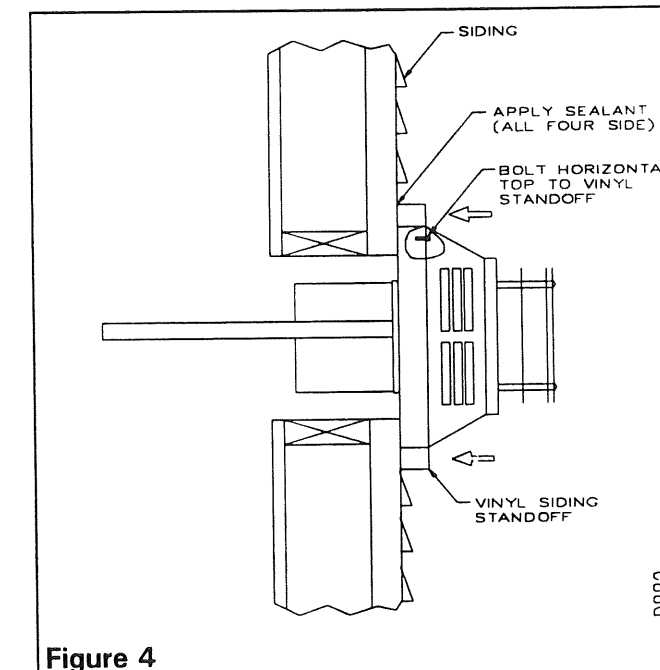

Figure 4
4) After steps 1,2, and 3 are completed, install the vent termination. Depending on location of termination, you may use a vertical or horizontal termination, (see Figure 4).
5) For a horizontal installation use the square or round termination refer to figure 5. Depending on wall thickness allow 1 inch to protrude from internal wall, as shown on (figure 4).
6) When vinyl siding or stucco is present, a standoff (spacer) is available. Avoid stucco on vent termination by using standoff (spacer) bolt horizontal top to standoff and then the complete assembly to wall see figure 4.